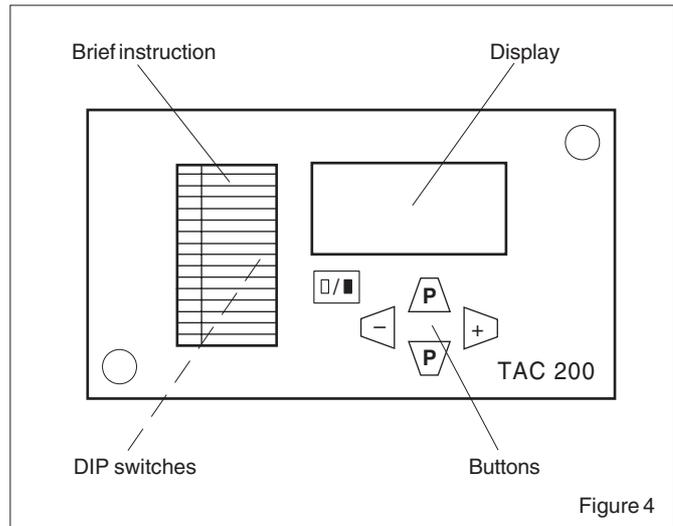

Figure 4
2. Set the switches on the DIP switches on the circuit board, located under the brief instruction, as required, see figure 4 and 5.